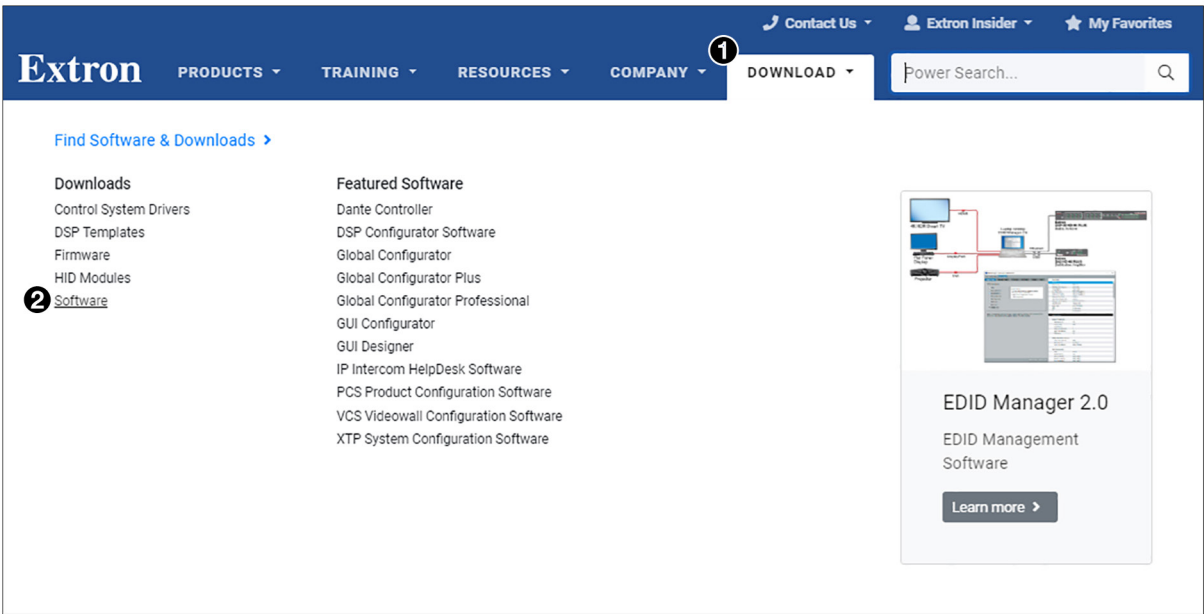

Figure 67. Software Link on the Download Page
- 1. On the Extron website, hover the mouse pointer over the **Download** tab (see figure 67, ❶), then move the pointer to the **Software** link (❷) in the Downloads column and click it.